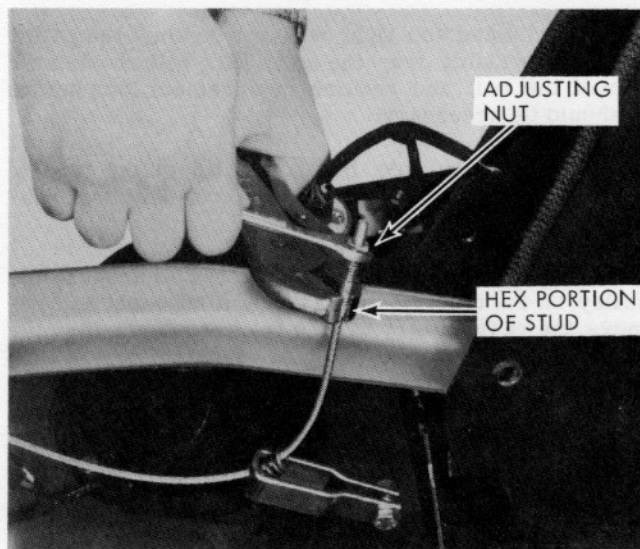

Figure 5A.
5. Attach a pair of vice-grips to the hex portion of the stud. If necessary, remove center console (See Fig. 5A).